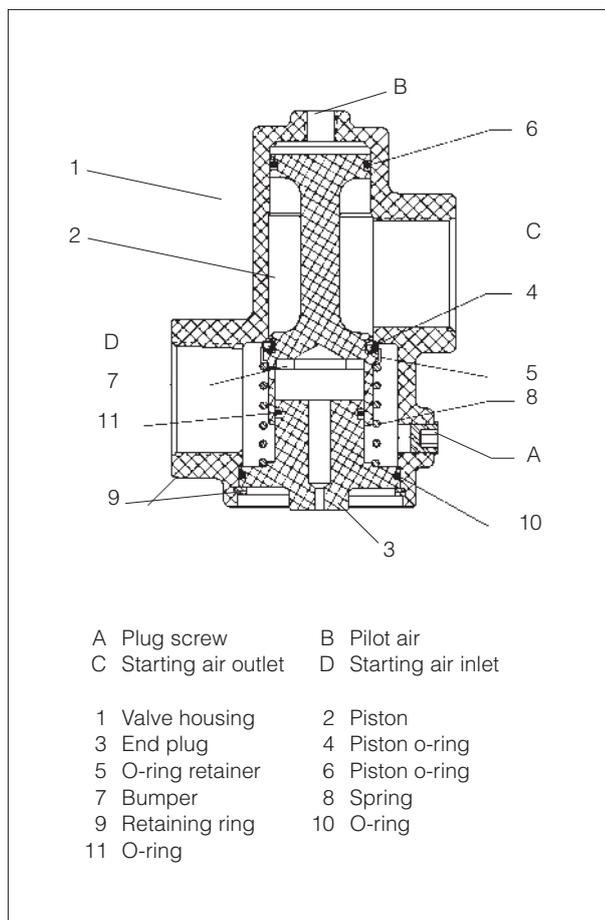

Fig. 1. Main starting valve.
- 2) Remove the plug screw (A), see fig. 1. and squirt about 30 g of 10 w oil into the valve through the plug opening.